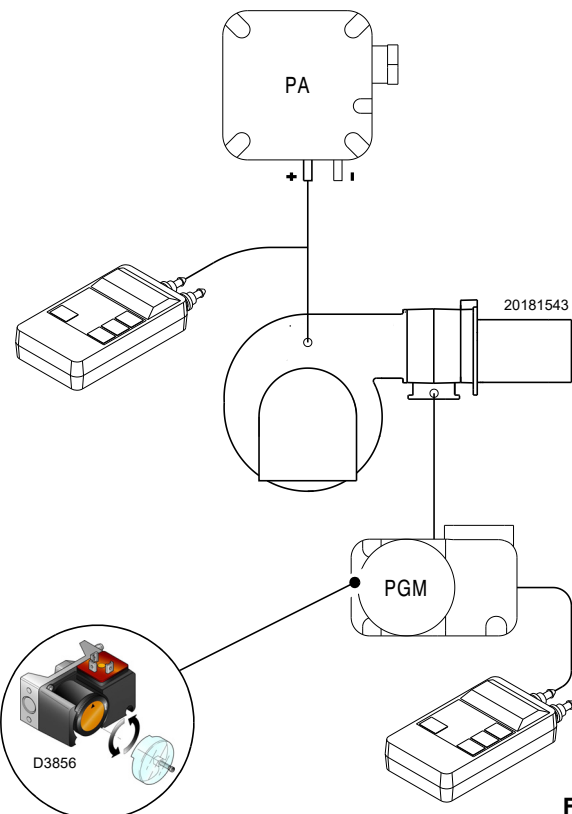

Fig. 31
- Adjust the high gas pressure switch to the upper limit of the scale (Fig. 31 on page 30).
Adjust the maximum gas pressure switch (Fig. 31) after making all other burner adjustments with the maximum gas pressure switch set to the end of the scale.